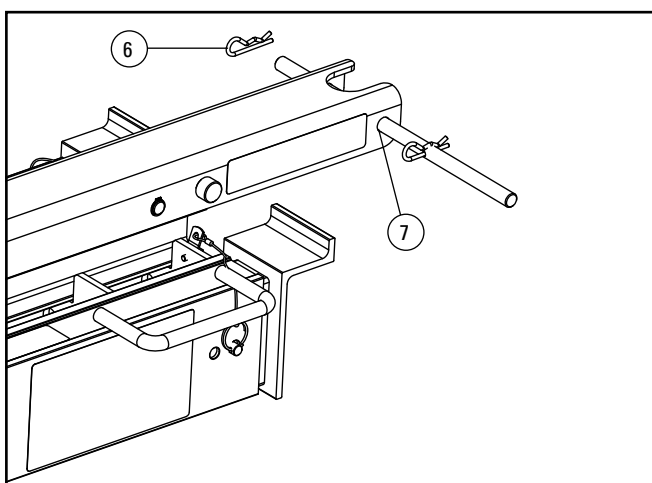

Fig. 21 Trolley assembly 3
- 4 Insert the handlebar of the transport carriage (Figure 21, Pos. 7) into the external bore hole of the troughing belt opposite, and secure it by inserting the cotter pin (see Figure 21, Pos. 6).
- 1 Remove the handlebar from the troughing belt (see Figure 21, Pos. 6 and 7).